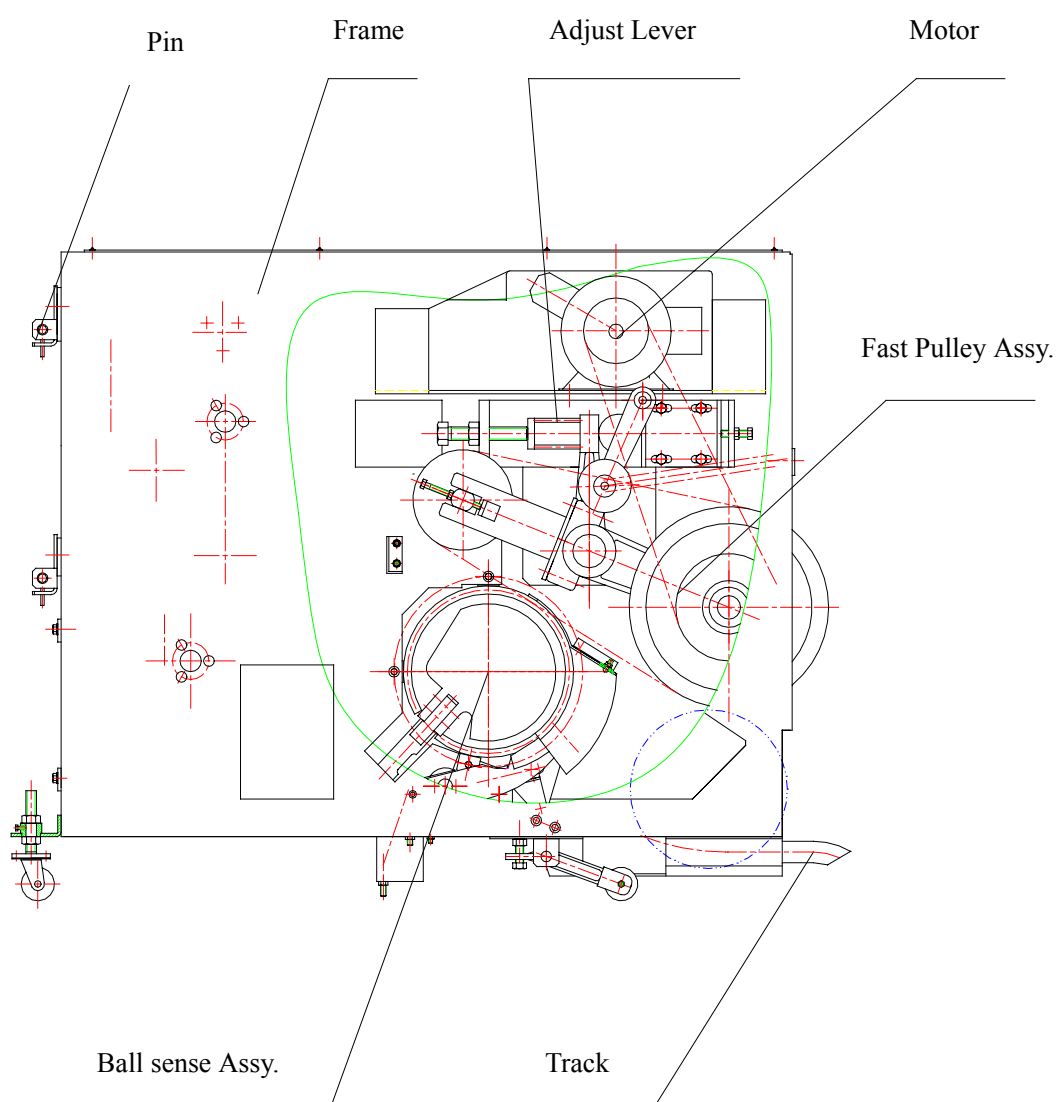

Fig. 1
2. The fasttrack ball return system is composed of such components as fasttrack frame (Dolly), fasttrack motor, fast pulley assembly and adjust lever, ball sense assembly and track. (See fig. 1)